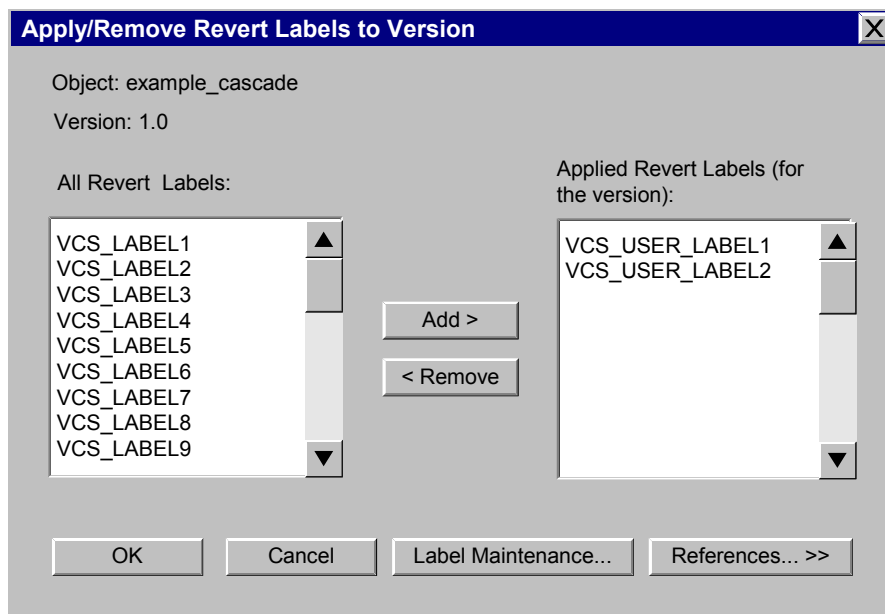

Figure 17 Apply/Remove Revert Labels to Version
- Click << References... button to restore the dialog box in Figure 17.